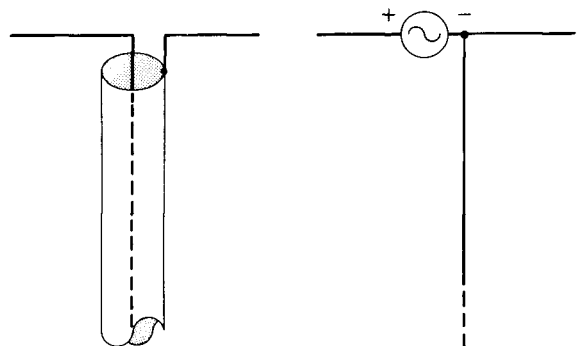

fig. 1. A dipole antenna fed directly with coaxial cable, left, and its electrical equivalent, right.
The basic and sole purpose of a balun is to prevent the coaxial feedline from radiating and becoming part of the actual antenna structure. This should be understood before its operation is explained. By connecting one side of the dipole to the outer conductor of the coax, the radiating structure shown in **fig. 1** is formed. The coaxial cable connected to one side of the dipole and extending at right angles has currents flowing on the outside surface of the braid and will radiate just as effectively as the conductors making up the actual dipole.
fig. 1. (A) Analog transmission line representation of a doublet antenna of length $2h_t^\circ$ composed of two identical monopoles of length h_t° . Each monopole is cut into additional length sections, h_1° and h_2° , for insertion of the loading coil. (B) shows input impedance of line end section h_2° . (C) shows line section h_1° terminated in load Z_{S2} . Short monopole with series loading coil is shown in (D). Equivalent circuit of inductively loaded monopole antenna is shown at (E).